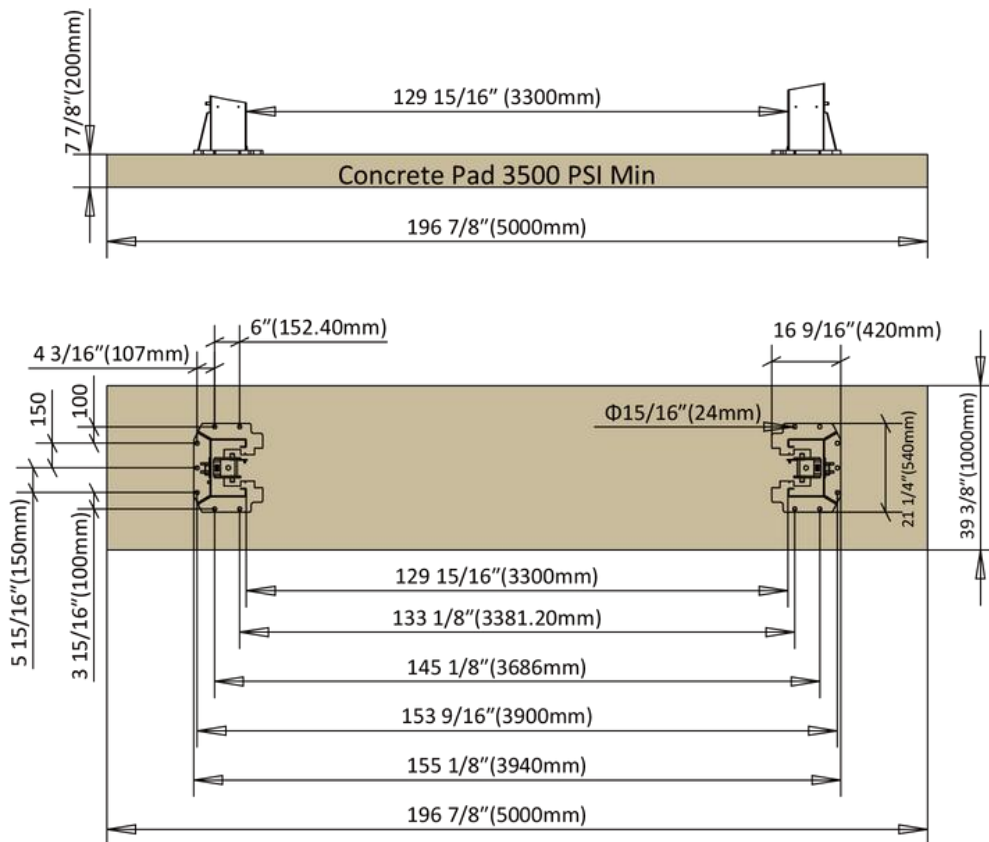

FIG 4
- ◇ Use a carpenter's chalk line to establish installation layout of baseplate( See Fig4).